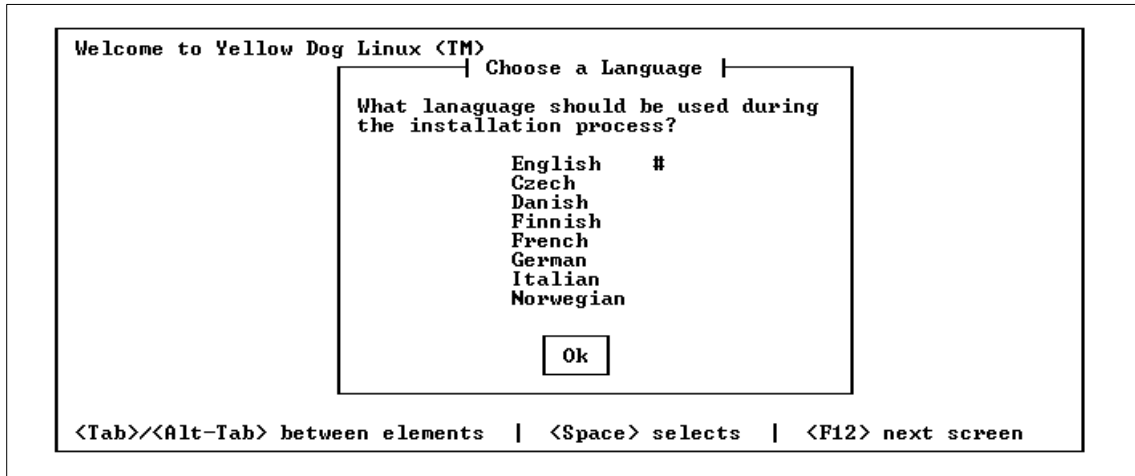

Figure 25. Language Selection
6. Select a language, in this case, select **English** then press **Enter** (see Figure 25 on page 161).